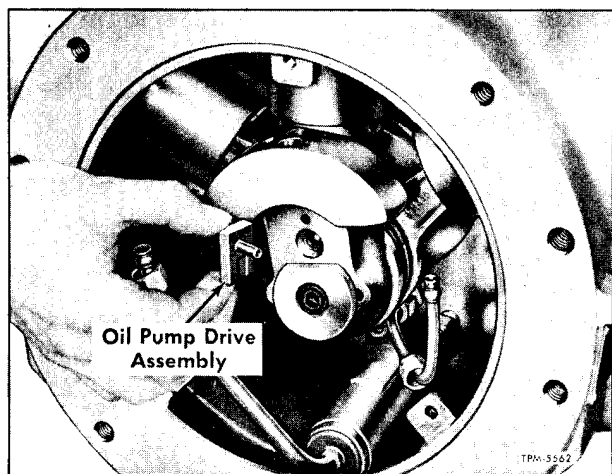

Figure 46—Removing Oil Pump Drive Assembly
1. Remove the oil pump drive assembly (36) in manner shown in figure 46.
7. Insert the oil pump drive assembly (27) in manner shown in figure 46.